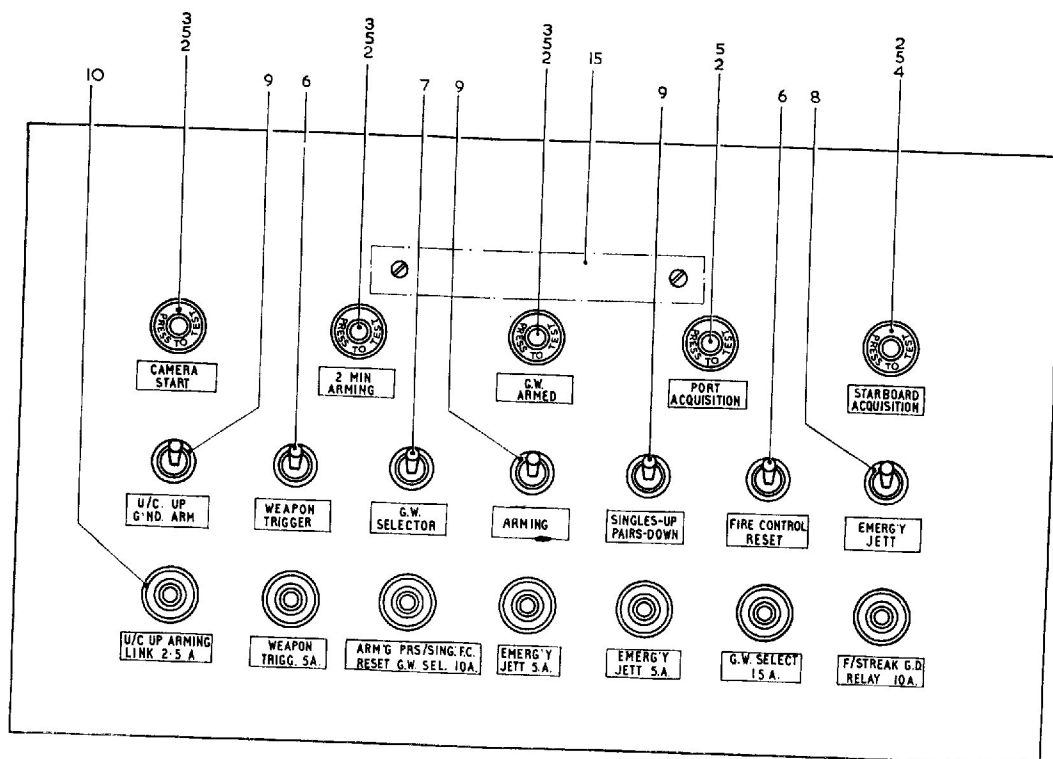
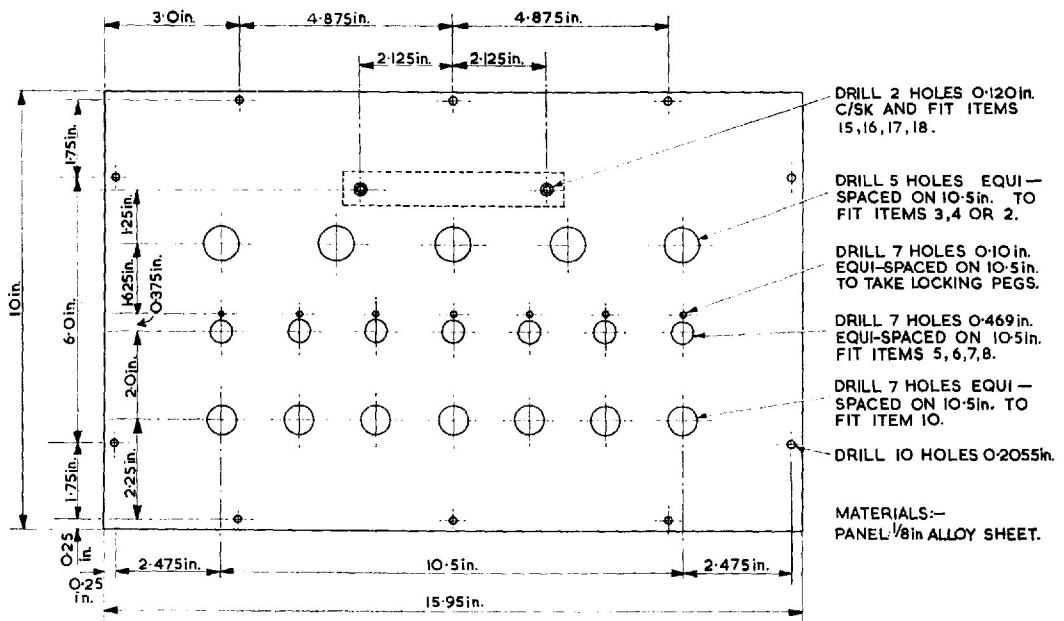

Fig. 2 Front panel—layout
Fig. 3. Front panel—construction details
6. Refer to Fig. 3 for the constructional details of the front panel, Fig. 2 for assembly details and Table 2 for components. Proceed as follows:—
(1) Mark out light alloy sheet and cut. (fig. 3).
(2) Mark out and drill holes (fig. 3).
(3) Modify four indicating lamps using Items 3 and 4, Table 2.
(4) Fit indicating lamps, switches and fuses (fig. 2).
(5) Fit terminal block (Item 15) with 6 BA screws, nuts and lock washers (fig. 3).
(6) Fit component identification strips with lettering as shown in Fig. 2.